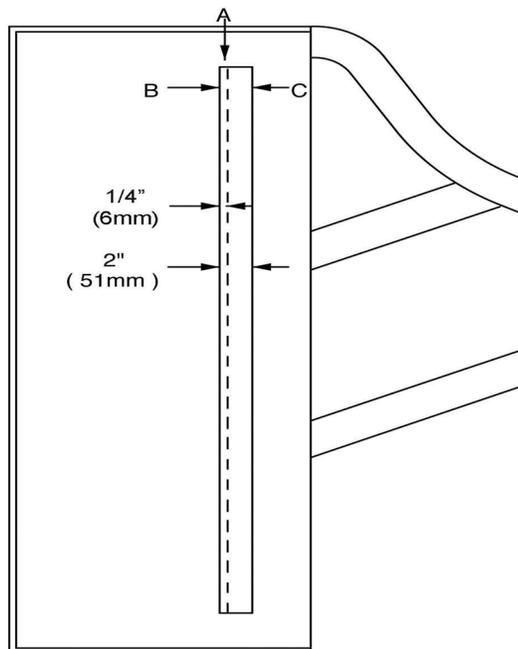

Figure 7A
- B. Now measure 2" (51 mm) to the right of line "B" which establishes the back of the slot, - line "C". (see figure 7A)